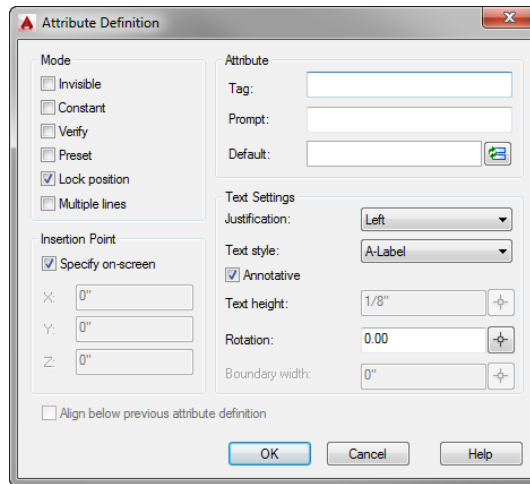

FIGURE 9.3 The Attribute Definition dialog box
12. Start the ATTDEF command by clicking the Define Attributes button on the Insert tab > Block Definition panel. The Attribute Definition dialog box opens (see Figure 9.3).